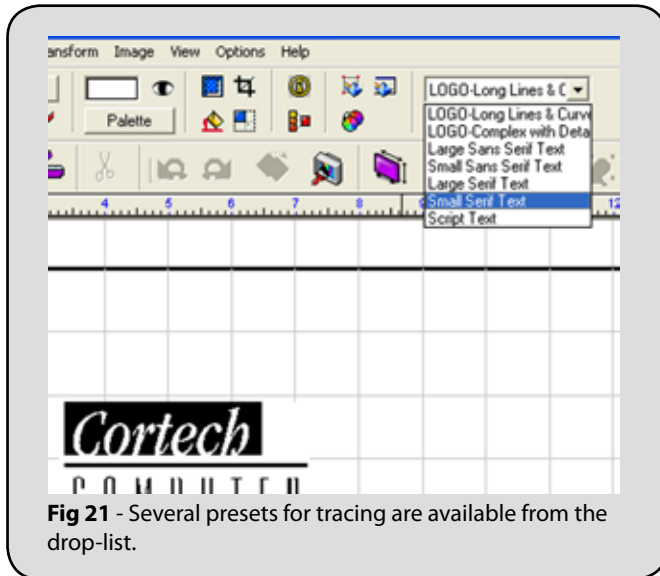

Fig 21 - Several presets for tracing are available from the drop-list.
4. From the **Save Settings** drop-list, choose the “Small Serif Text” item. (Fig. 21)